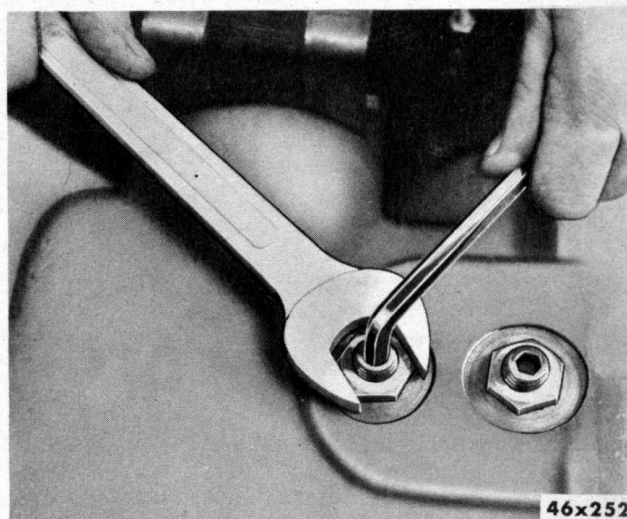

Fig. 85—Adjusting Shift Collar (Front Mounted Shift Unit)
- (1) Check bellcrank and remove any scores at ball operating end faces.
- (2) Place both the shift fork and collar and the shift unit in the slow speed position. Both must be in the same position in order to install the shift unit.
- (3) Install new gasket and position shift unit with the bellcrank in the slot in the shift shaft. Install lock washers and cap screws and tighten to the correct torque.
- (4) Adjust Allen screws in top of carrier housing in order to allow shift collar to engage the splined teeth on both the fast and slow speed spur pinions (Fig. 85).